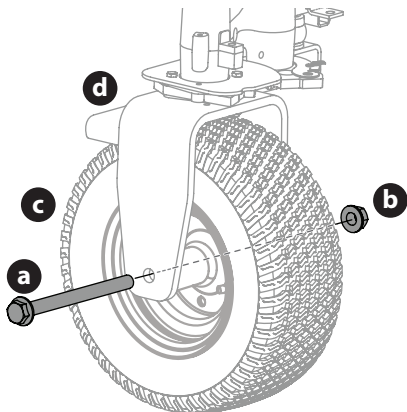

Figure 53
1. Remove the hex screw (a) and flange lock nut (b) that secures the front wheel (c) to the yoke assembly (d) (Figure 53).